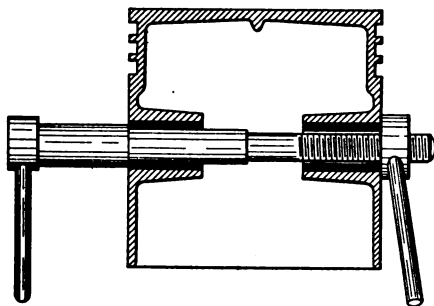

Fig. 47. Piston Pin Bushing with Shouldered Mandrel
**Bushing Removers.** When the piston pin is fixed in the connecting rod and rotates in bushings in the piston bosses, it is sometimes necessary to remove these bushings. A somewhat similar device will do this work, except that a shoulder or stop is needed to come up home against the side of the bushing, while the screw or threaded end must be small enough to pass through the hole in the bushing, and long enough to come out on the other side so a nut can be applied. One of these is shown in Fig. 47. The disadvantage of